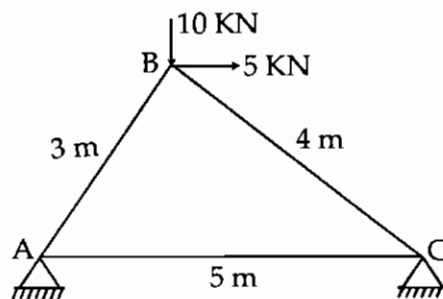

Figure 7 [Q. No. 4 (C)]
- (C) Using the stiffness approach of analysis, analyse the pin-jointed truss shown in Figure 7. Axial rigidity of all the members is same. 13